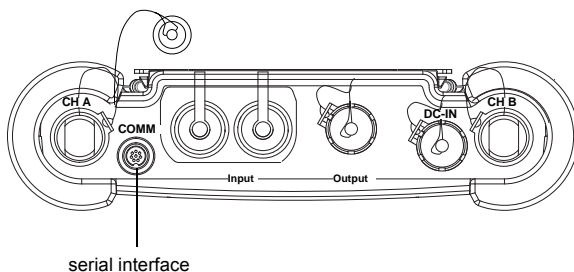

Fig. 7.13: Connections of the transmitter FLUXUS F608
- Connect the RS232 cable to the transmitter (see Fig. 7.13) and to the serial interface of the PC. If the RS232 cable can not be connected to the PC, use the RS232/USB adapter.